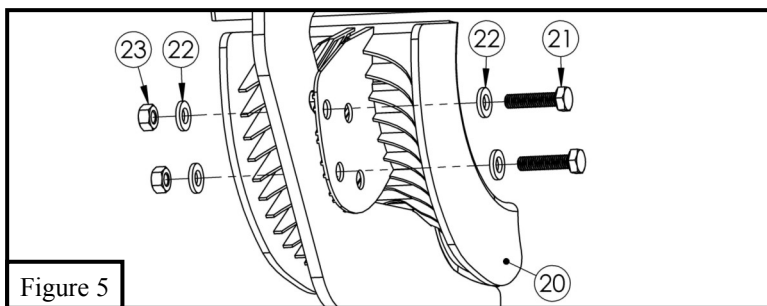

Figure 5
6. Locate (1) plastic bracket cover (Item 13) and loosely secure it to the (6) brackets using the provided hardware: (2) M6 hex head cap screws, (4) M6 flat washers, and (2) M6 nylon nuts. Repeat for every bracket. See **Figure 5**.